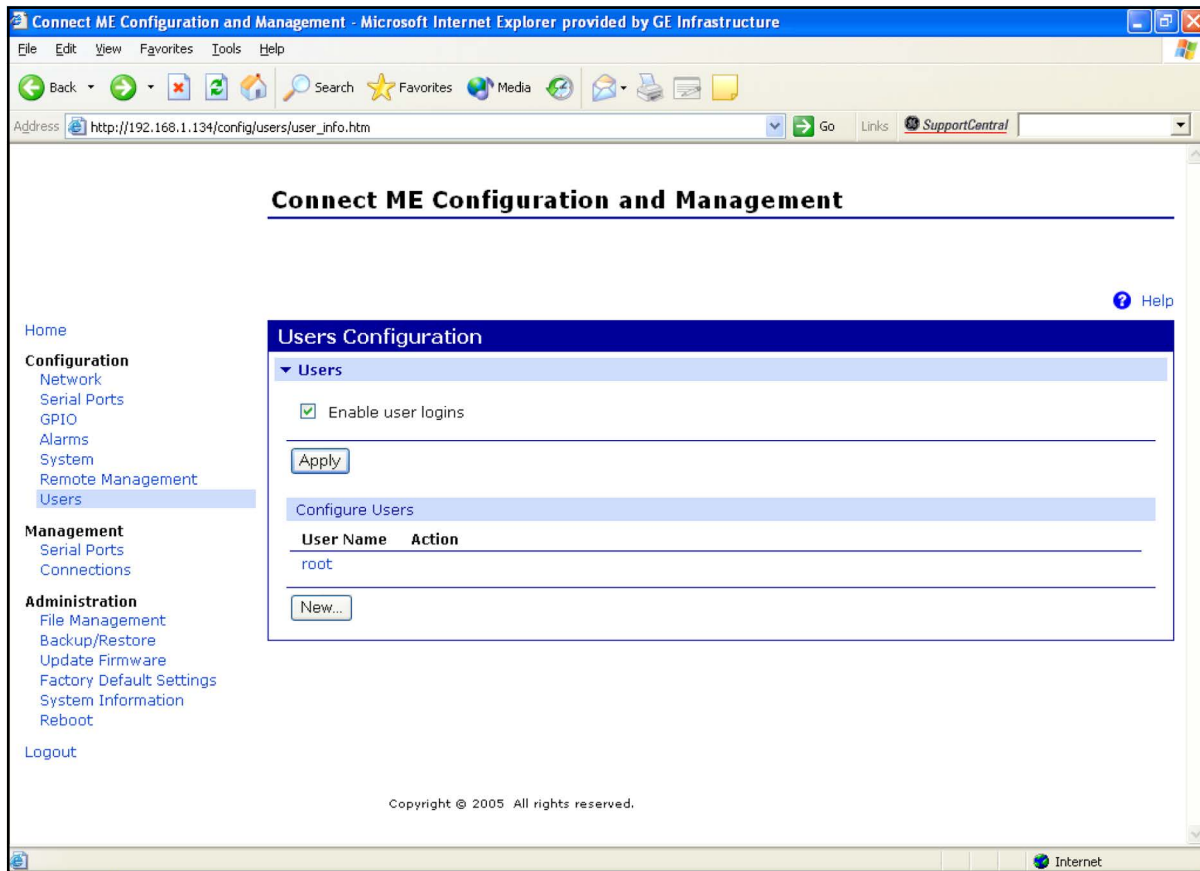

Figure 19: User's Configuration Menu
3. Click on **Login**. *Figure 19* appears.